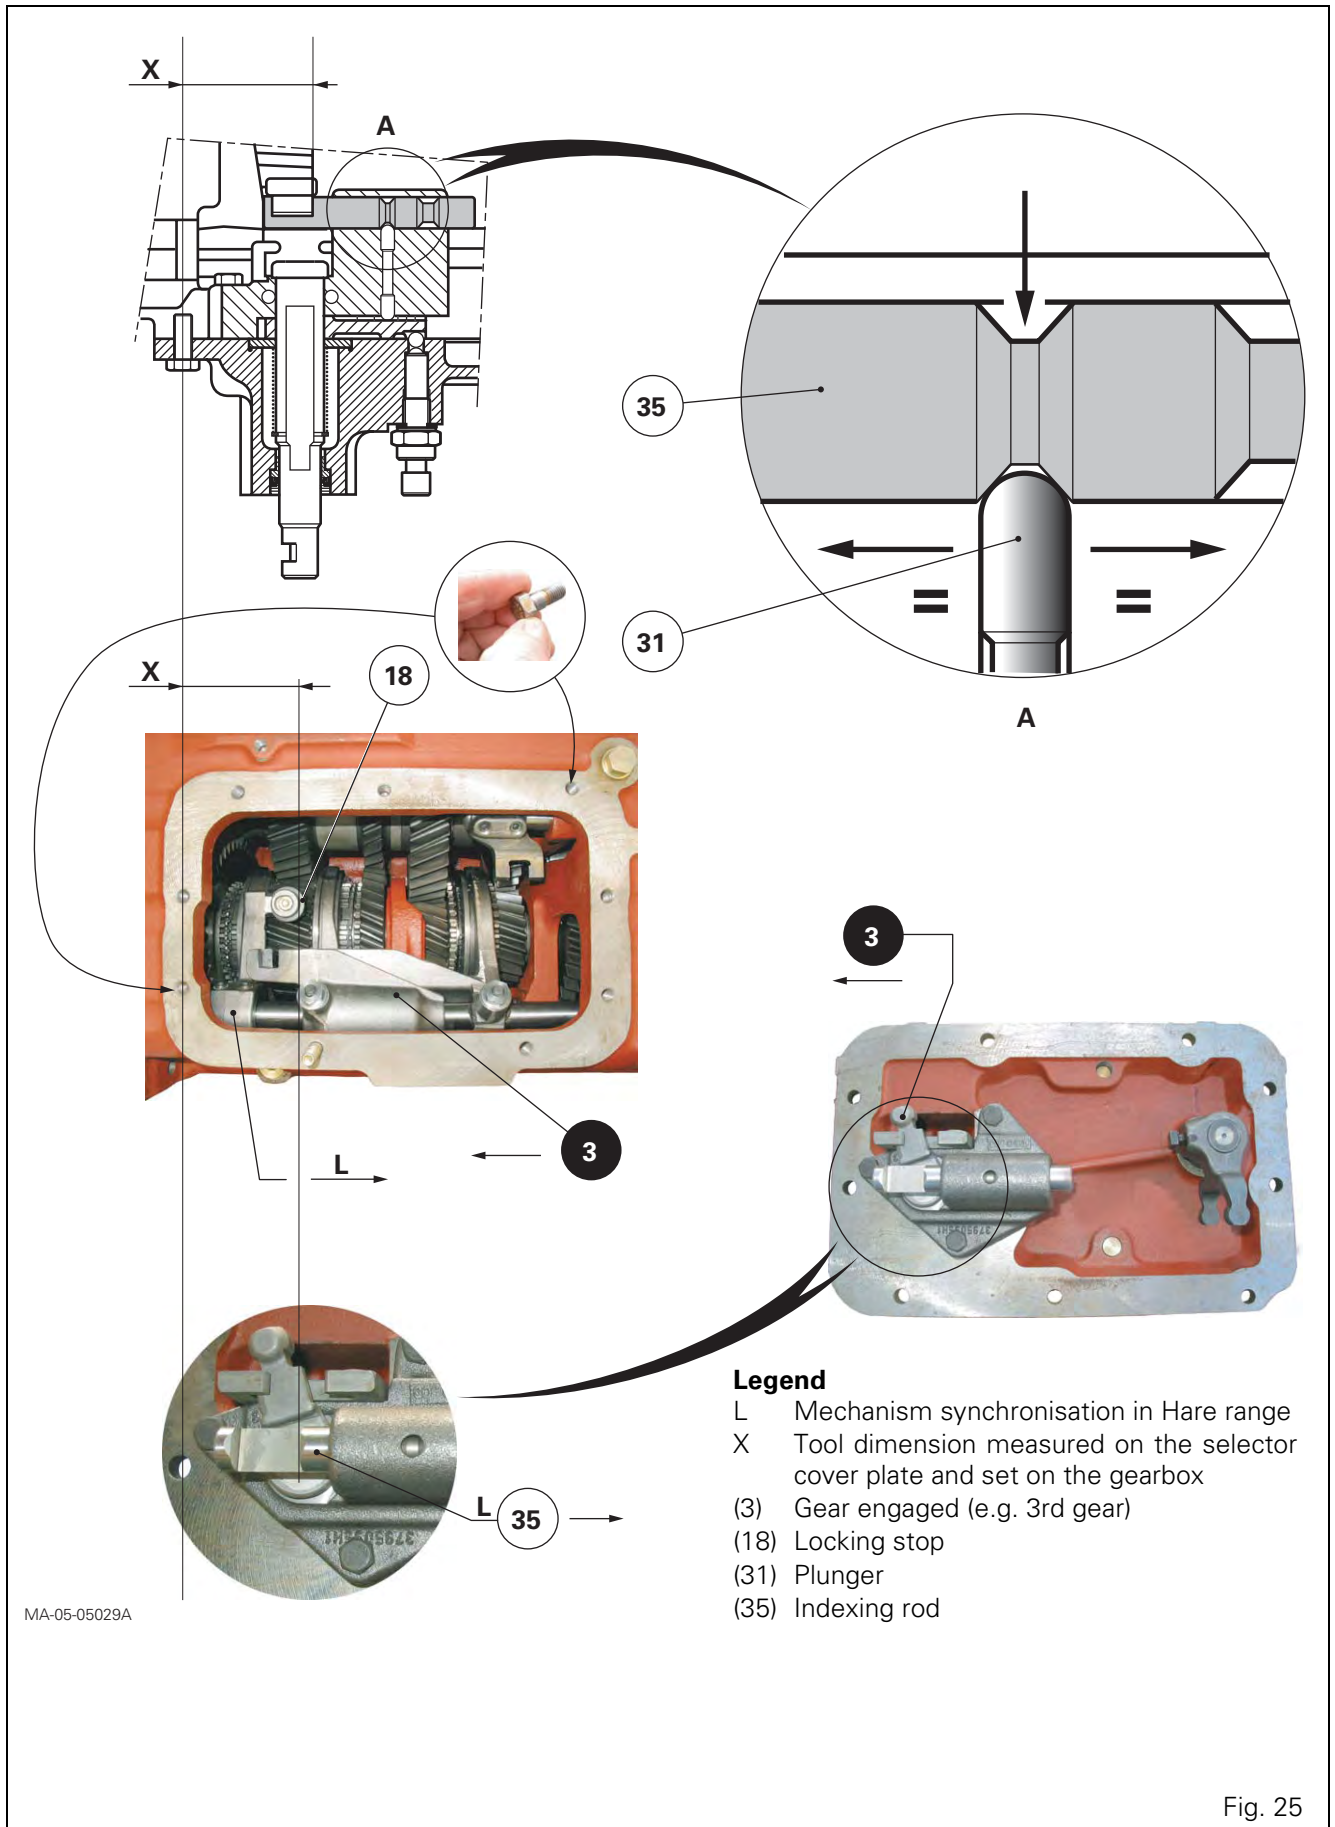

Fig. 25
On the cover plate (Fig. 25)
81. It is **essential** to equally distribute the clearance between the indexing rod and the plunger (31) (Fig. 25, detail A).
82. Using the tool, measure dimension X according to Fig. 23 and Fig. 25.
On the gearbox (Fig. 25)
85. Adjust the locking stop (18) (Fig. 24 - Fig. 25) by placing it in contact with the tool.
86. Lightly smear the thread of the screw (17) with Loctite 242 or equivalent. Tighten to a torque of 40-50 Nm.